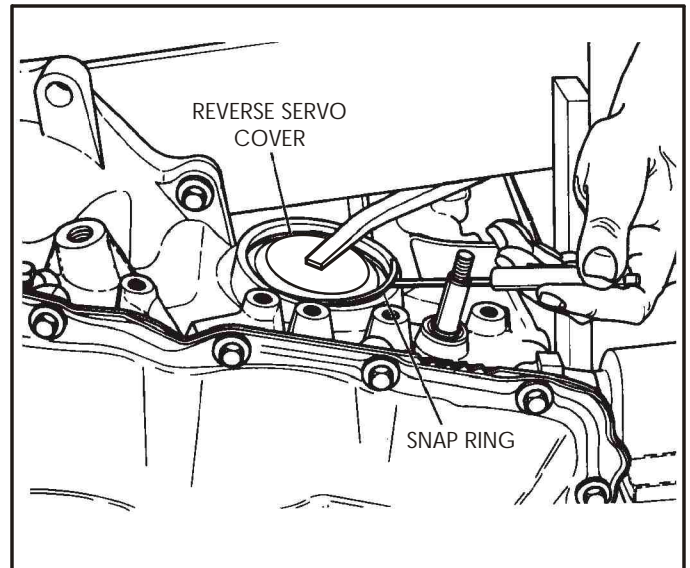

Figure 208
32. Install reverse servo cover and use the support fixture as a pivot point to push the servo cover downward with a large screwdriver, as shown in Figure 208.
33. While the servo cover is compressed, use small screwdriver to install the servo cover snap ring, as shown in Figure 208.